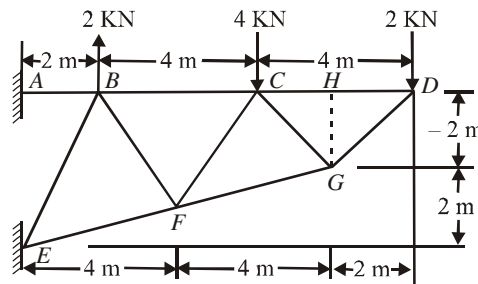

Fig 13.75
Q. 25: A pin jointed cantilever frame is hinged to a vertical wall at *A* and *E*, and is loaded as shown in fig 13.75. Determine the forces in the member *CD*, *CG* and *FG*.